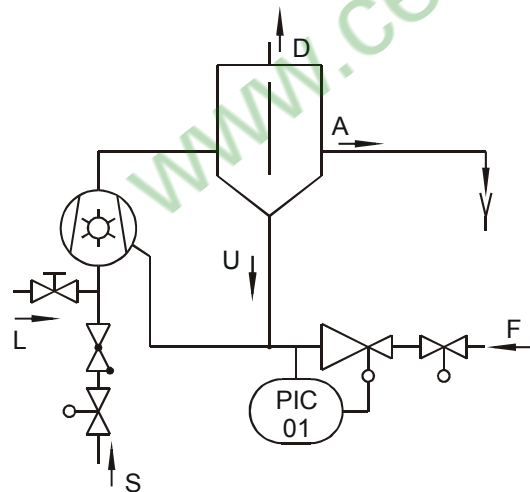

Fig. 14 Open circulation cooling
- Set the pressure in the operating liquid pipe to max. 0.2 bar overpressure (→Diagram Fig. 14, 15, 16)